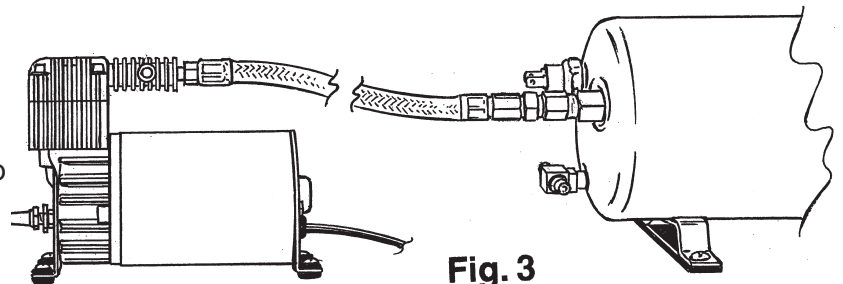

Fig. 3
5. Connect the metal braided hose from the compressor to tanks female brass inlet fitting. (Fig 3).